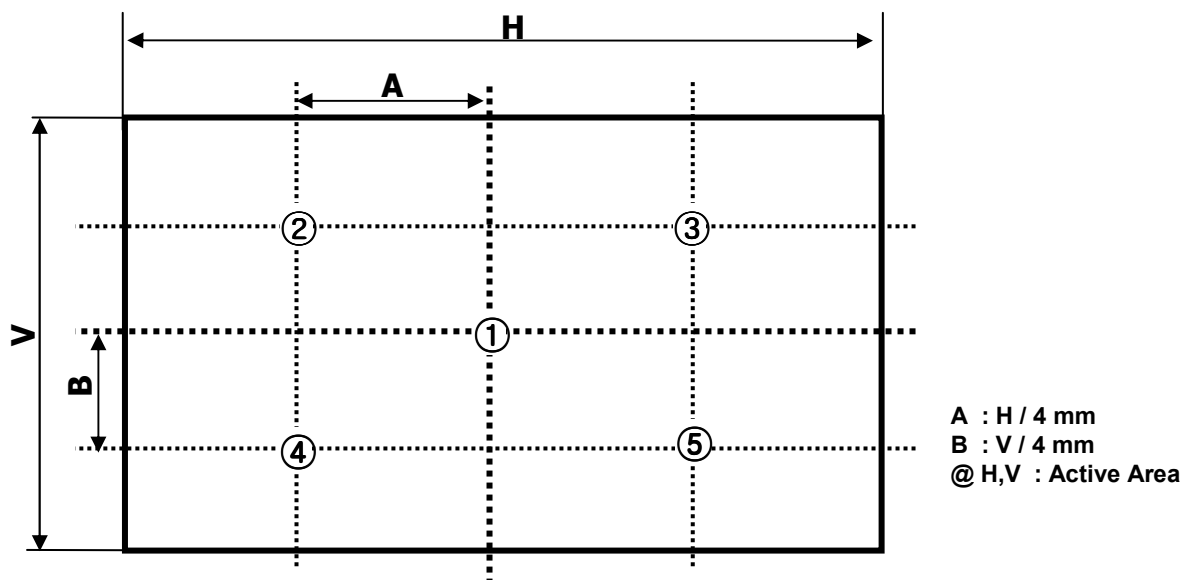

FIG.2 Measure Point for Luminance
2. Surface luminance are determined after the unit has been 'ON' and 1 Hour after lighting the backlight in a dark environment at  $25 \pm 2^\circ\text{C}$ . Surface luminance is the luminance value at center 1-point across the LCD surface 50cm from the surface with all pixels displaying white. For more information see the FIG. 2.
For more information, see the FIG. 2.